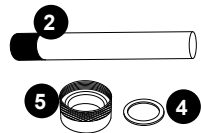

FIGURE 7
5. Remove the quartz seal compression nut (5) by turning it **counterclockwise**, Figure 5. Use a pair of channel-lock pliers if needed, Figure 6. You will notice that there is a stainless steel compression washer (4) which slides over the quartz tube, save the washer (4) for later use, Figure 7.
6. Now you are ready to clean or replace the quartz tube (2). For cleaning the quartz tube (2), follow steps 7 and 8 then proceed to step 9. For replacing quartz tube (2), skip steps 7 and 8 and proceed from step 9.